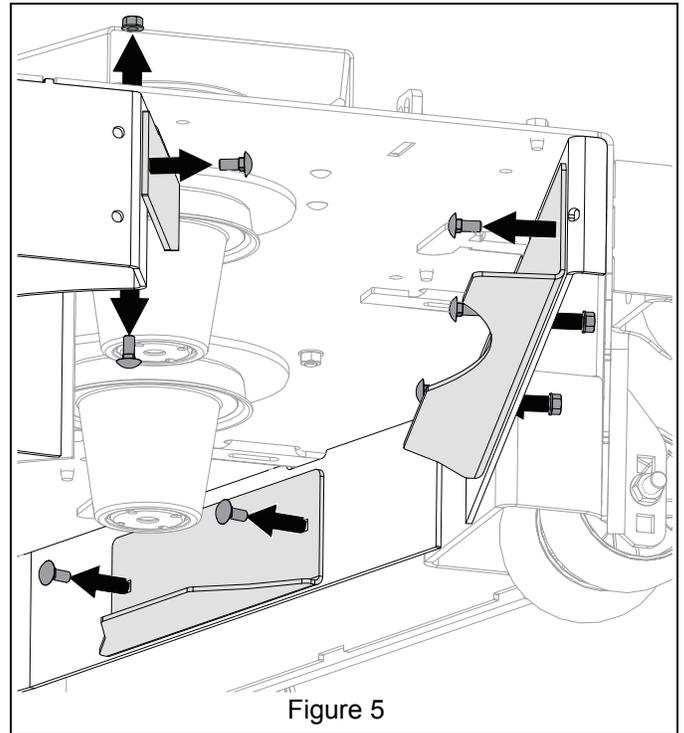

Figure 5
- For models equipped with front vacuum baffles and / or discharge baffle, remove hardware retaining baffles and remove baffles. Retain parts for operation without mulch kit. See Figure 5.